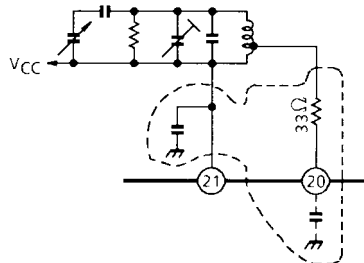

Figure 1
- (1) To reduce spurious signals in the FM frequency range in the SW1 or SW2 band, an inductor (1 μ H) is inserted next to the AMRF input pin (pin 24).
- (2) Insert a resistor (33 Ω) next to the AM OSC pin (pin 20). In the lower part of the frequency range, if the load impedance of the oscillator circuit drops lower than that of the parasitic circuit (indicated by the dots in Figure 1), oscillation frequency of the parasitic circuit may stop. To avoid signals not being received due to the above, insert a resistor to lower the Q of the parasitic circuit.